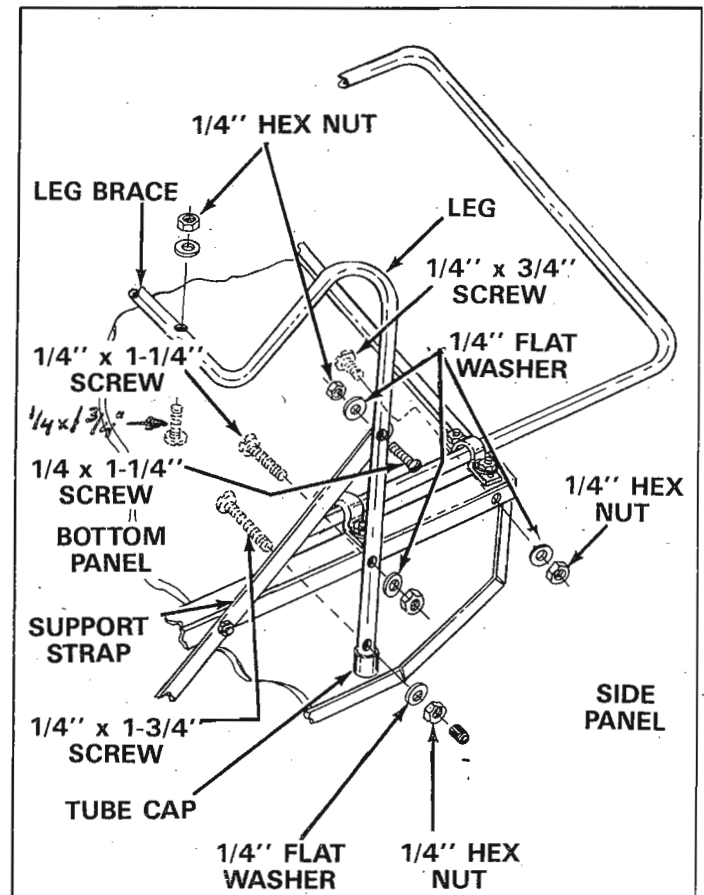

FIGURE 10.
Place tube caps on ends of "W" leg. See figure 10.
18. With cart still upside down, assemble the leg to bottom and side of cart. Line up holes in center of "W" leg with two holes in bottom. Secure with two 1/4" x 1-3/4" screws, inserted from inside of cart, fasten with 1/4 flat washers and 1/4 hex nuts. See figure 10. Do not tighten at this time.
19. Assemble the leg to each of the side panels with two 1/4 x 1-3/4" screws, inserted from inside of cart, fasten with 1/4 flat washers and hex nuts. See figure 10. Assemble 1/4" x 3/4" screws in back hole of both side angles and fasten with 1/4" flat washers and hex nuts.
20. Assemble the leg to each of the support straps with two 1/4 x 1-1/4 screws and secure with 1/4" flat washers and hex nuts. See figure 10.
21. Now tighten all screws and nuts securely. Install rubber caps on 1/4 x 1-3/4" screws as shown in figure 10.